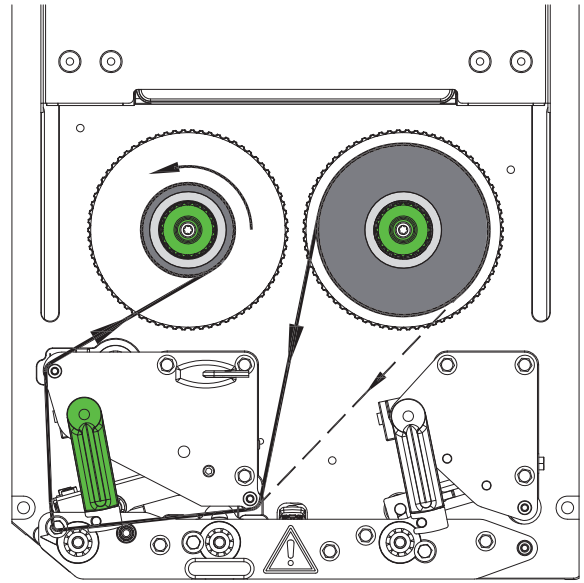

Fig. 14 Transfer ribbon feed path
2. Turn lever (6) counterclockwise to open the printhead.
3. Slide transfer ribbon roll (3) onto the ribbon supply hub (4) until it stops and so that the color coating of the ribbon faces away from the printhead after loading.
4. Hold ribbon supply hub (4) firmly and turn knob (5) counterclockwise until the transfer ribbon roll is secured.
5. Slide suitable ribbon core (1) onto the transfer ribbon take-up hub (2) and secure it in the same way.
6. Guide transfer ribbon through the print unit as shown in Fig. 14.
7. Secure starting end of transfer ribbon to the transfer ribbon core (1) with adhesive tape. Ensure counterclockwise rotation direction of the transfer ribbon take-up hub here.
8. Turn transfer ribbon take-up hub (2) counterclockwise to smooth out the feed path of the transfer ribbon.
9. Turn lever (6) clockwise to close the printhead.